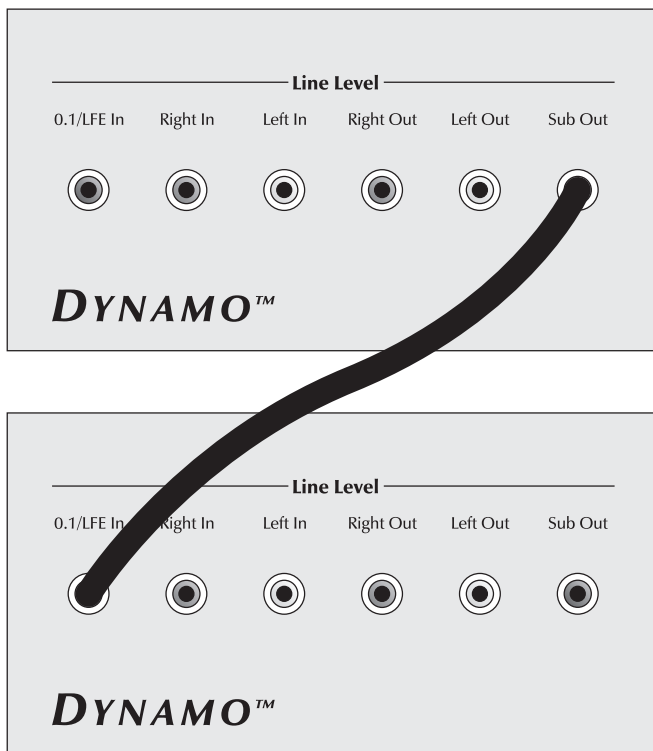
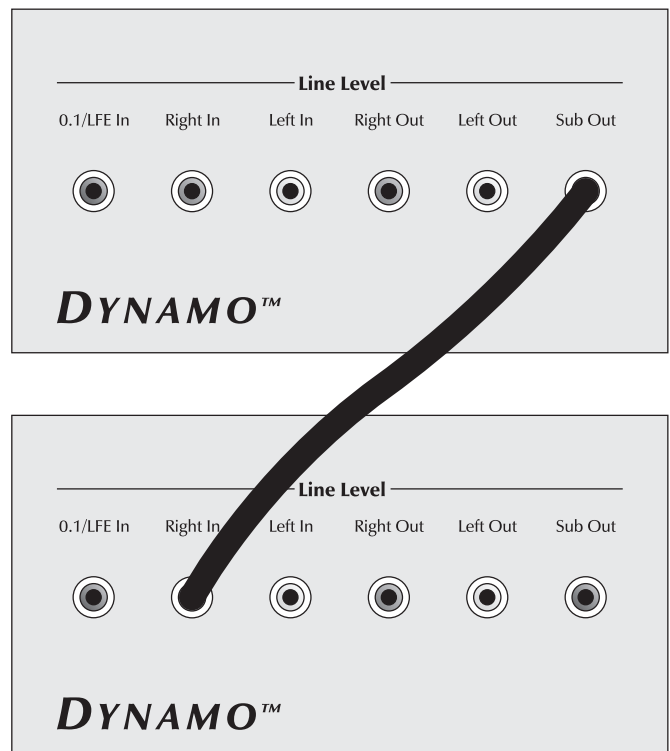

Figure 11. Signal connection for using multiple Dynamos for LFE.
Figure 12. Signal connection for using multiple Dynamos for stereo.
- 2 Connect the Sub Out of the previous Dynamo to either the LFE or the Right (or Left) input of the next Dynamo using a quality RCA interconnect. Connecting to the LFE input allows additional subwoofers to perform as dedicated LFE channels (see figure 11). Connecting to the Right (or Left) input allows additional subwoofers to perform as dedicated 2-channel subwoofers (see figure 12).